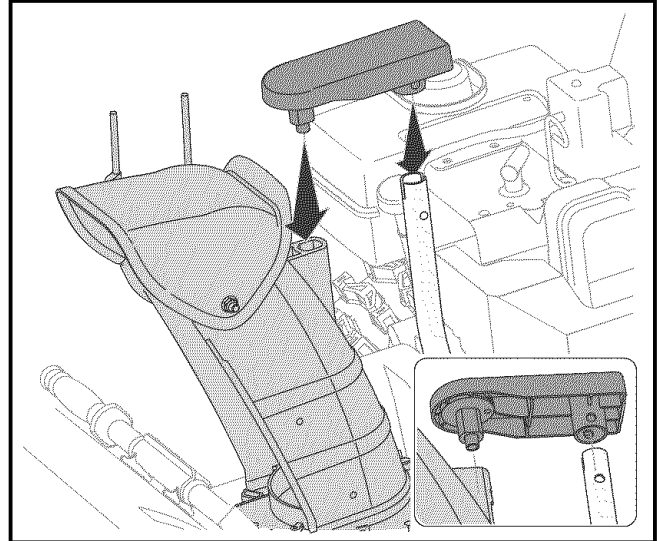

Figure 7
9. Insert the round end of the chute control box on the short tube of the chute assembly as shown in Figure 7.
10. Insert other end of the chute control box into the chute support tube. See Figure 7.